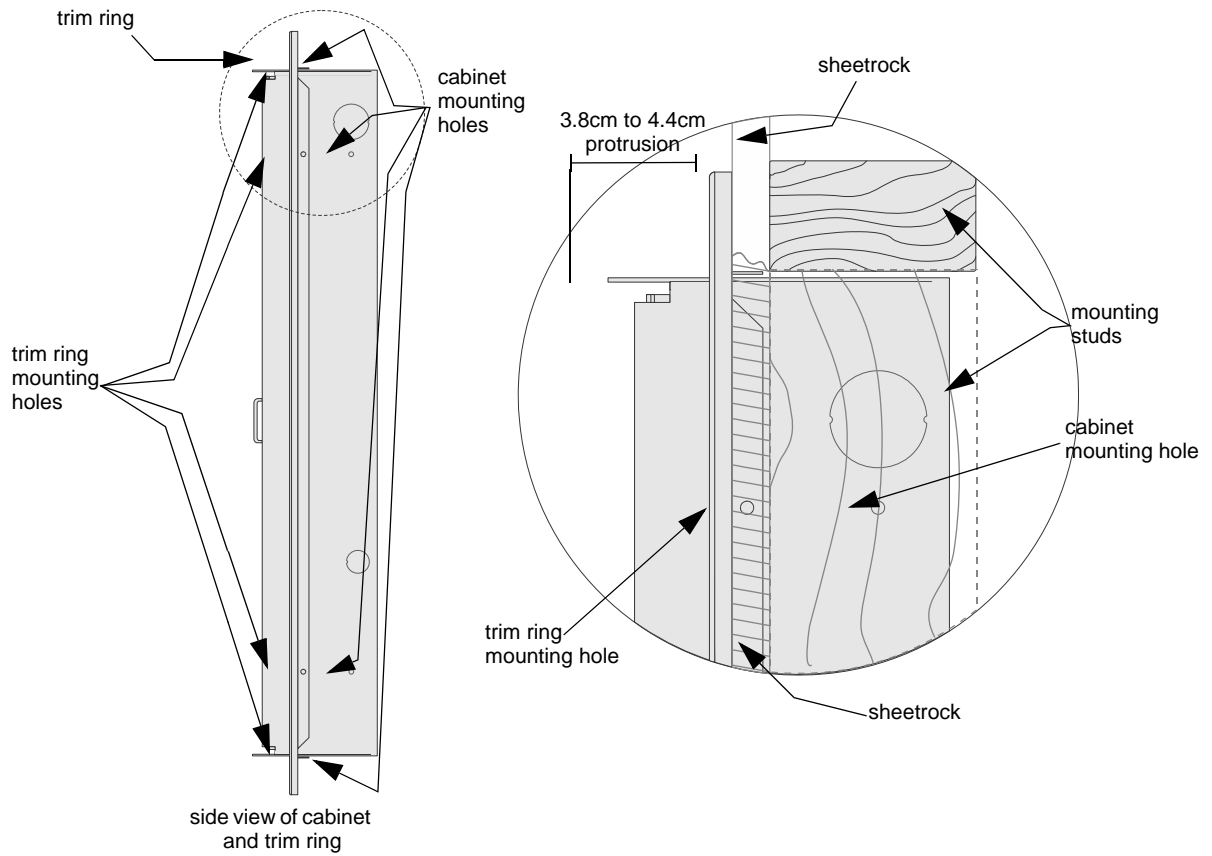

Figure 3.2 Detail of Flush Mounting with Trim Ring
3. There should be dimensions of 3.8cm to 4.4cm of space between the cabinet extending from the wall. This distance should be measured from either the top edge or bottom edge to the exterior side of the sheet rock. (See Figure 3.2.).